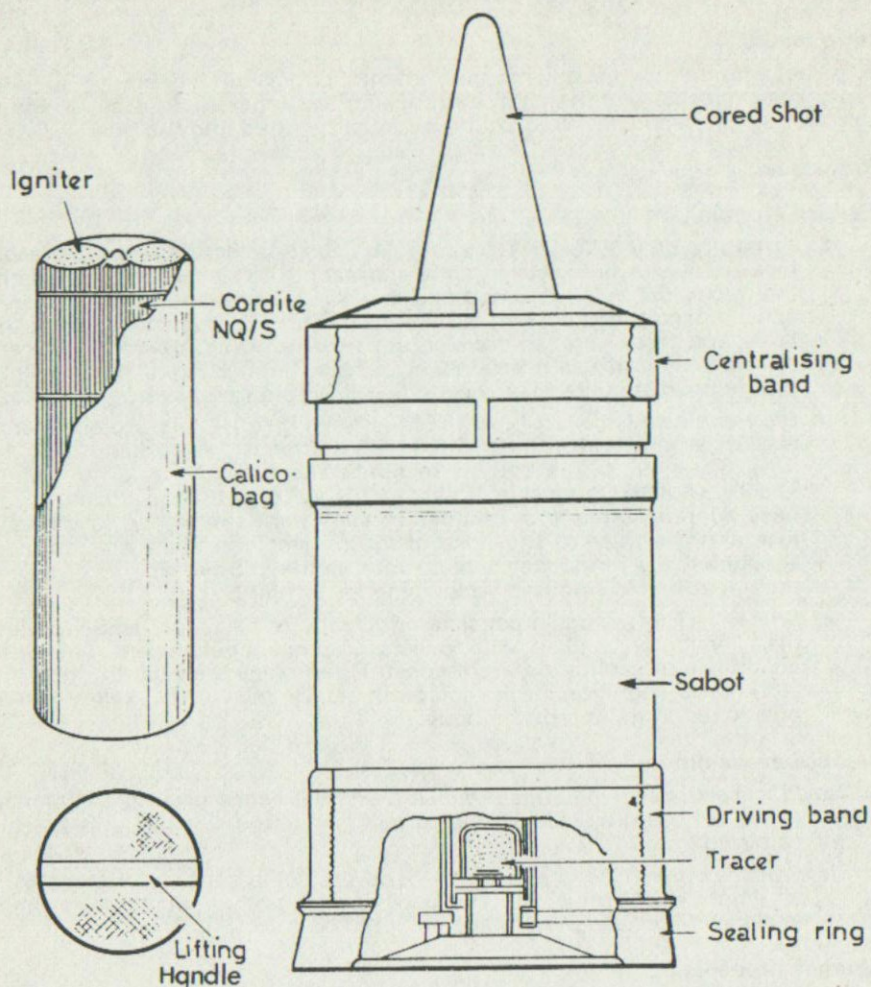

Fig 75 - 120-mm APDS projectile and charge
2. a. *Armour piercing discarding sabot (APDS)* (See Fig 75) – the projectile incorporates a base, cored shot and sabot. The base accommodates the tracer, the nylon driving band and a rubber sealing ring. The cored shot houses the tungsten carbide core. The sabot is made up of the body and three segments which are held in position by a nylon centralizing band. It has a prominent nose on a short squat body with a pronounced shoulder. For recognition it is coloured black.